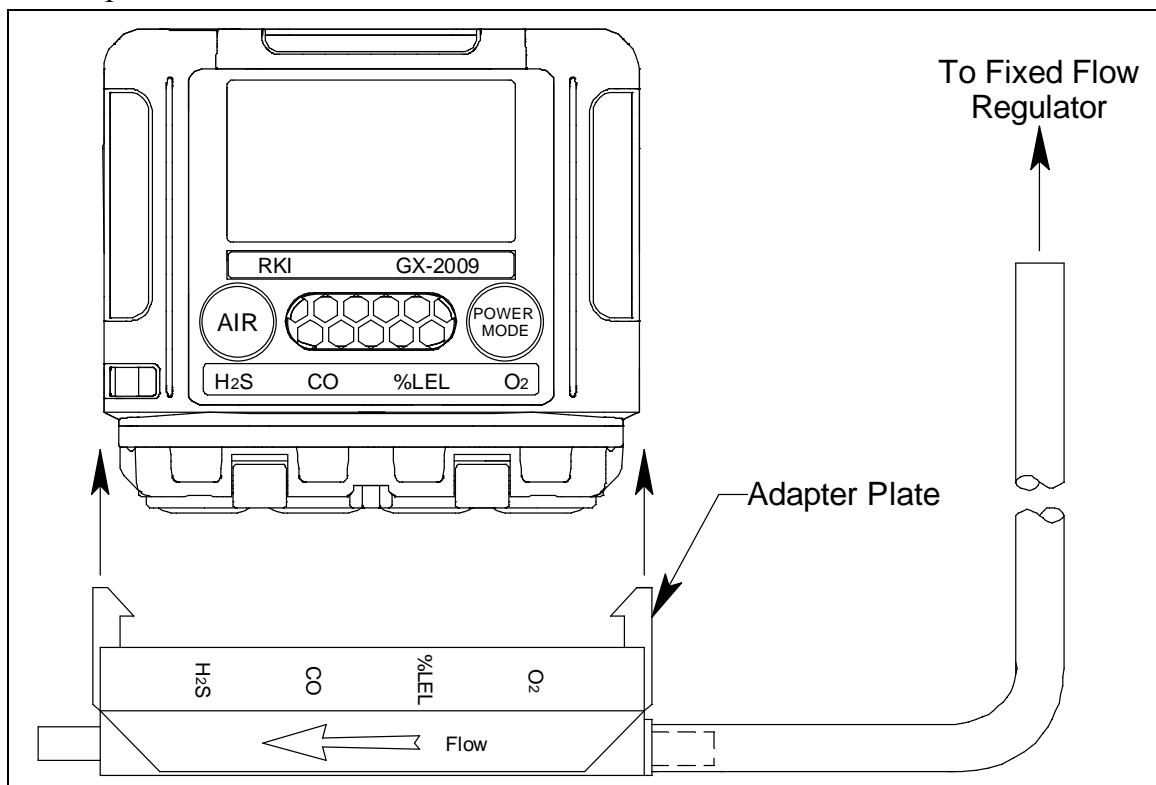

Figure 14: Installing the Adapter Plate
4. Push the adapter plate onto the GX-2009's sensor face. Make sure the adapter plate is oriented as shown in Figure 14 below with the sensor names on the adapter plate matching up with the sensor names on the instrument.